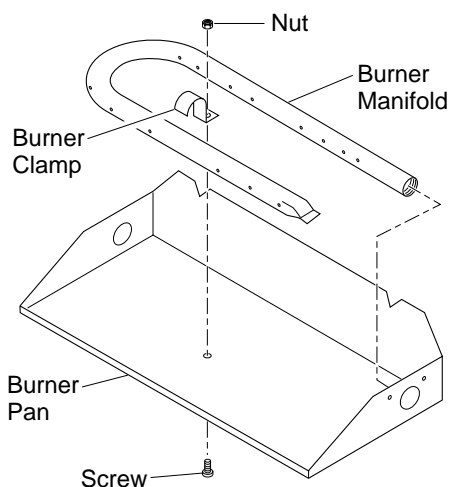

Figure 9 - Installing Burner
5. Using burner clamp, screw, and nut provided, assemble clamp to pan ("U" style burners only). This will hold the burner manifold in place (see Figure 9).